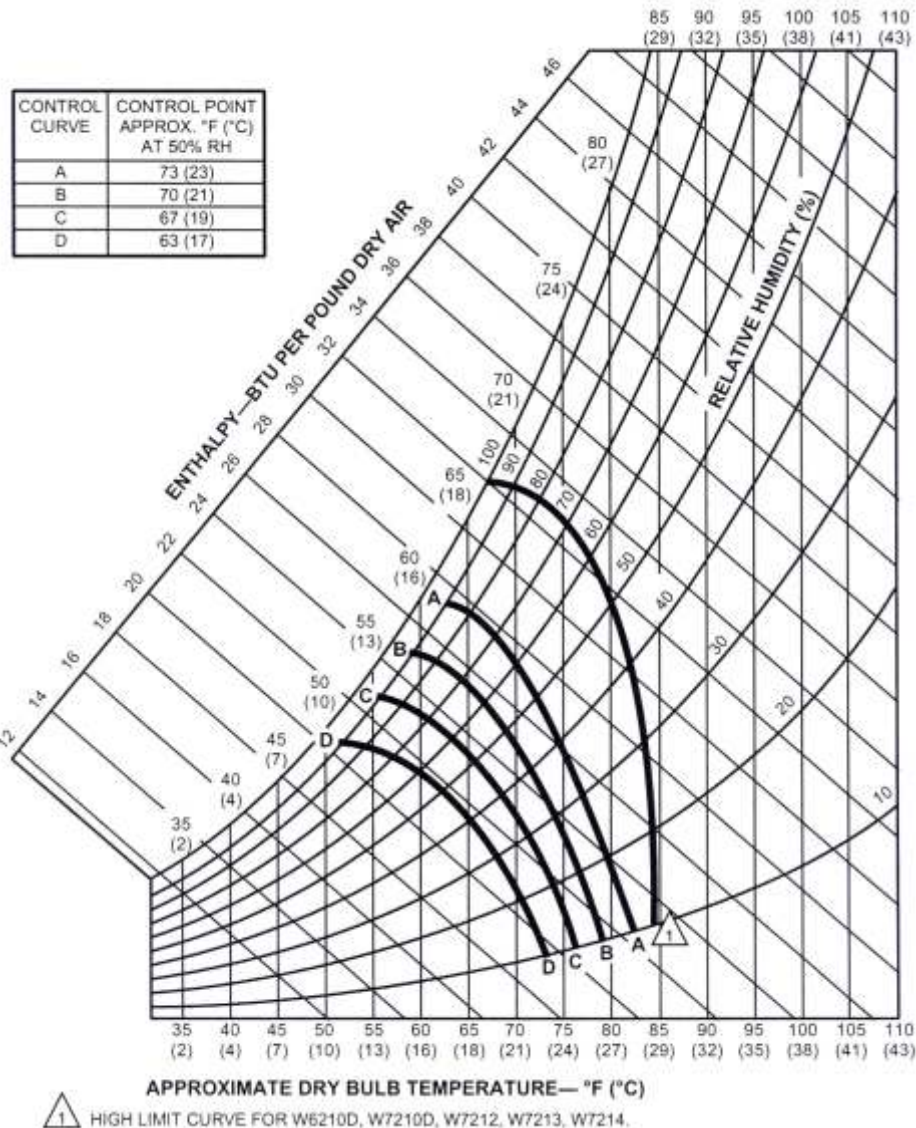

Figure 6
8. Set the outdoor air enthalpy change overpoint. **Refer to Figure 6** and the instructions on **Page 4.**
The enthalpy control senses both temperature and humidity or the heat content of the outside air. It controls the amount of outdoor air brought into the system. When the heat content of the outside air is below control setpoint, the control modulates outdoor dampers to meet cooling needs of the building. When the heat content rises above control setpoint, the control closes outdoor dampers to minimum position. The recommended setpoint is "A". If Economizer is allowing air which is too warm or too humid to enter the system, control may be changed to a lower setpoint (B, C, or D). **Refer to Figure 6.**